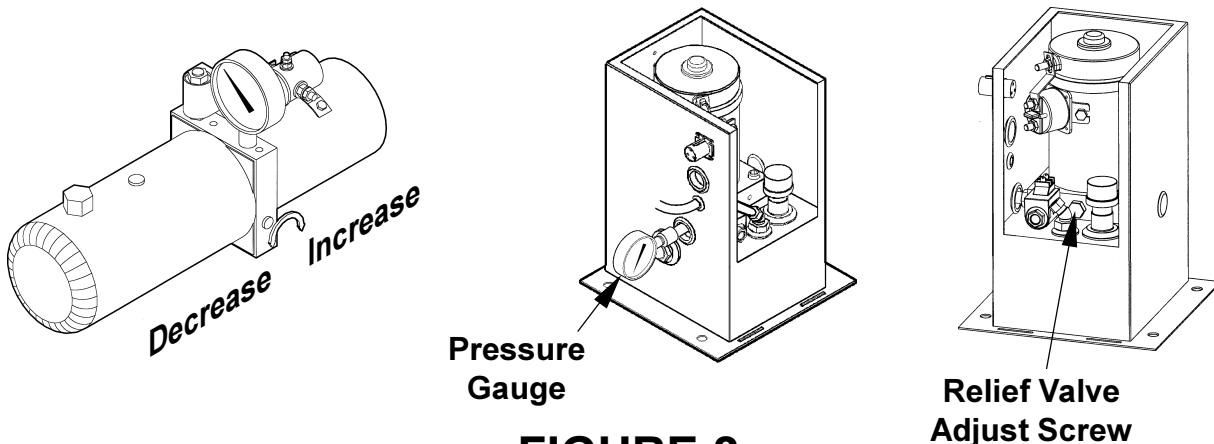

FIGURE 2
4. With Platform on the ground, remove the pressure hose and fitting from the Pump and replace it with a 0-3000 PSI Pressure Gauge. Hold the switch in the "UP" position. Adjust the Relief Valve on the side of the Pump until the gauge shows 2800 to 3000 PSI . (See Fig. 2)